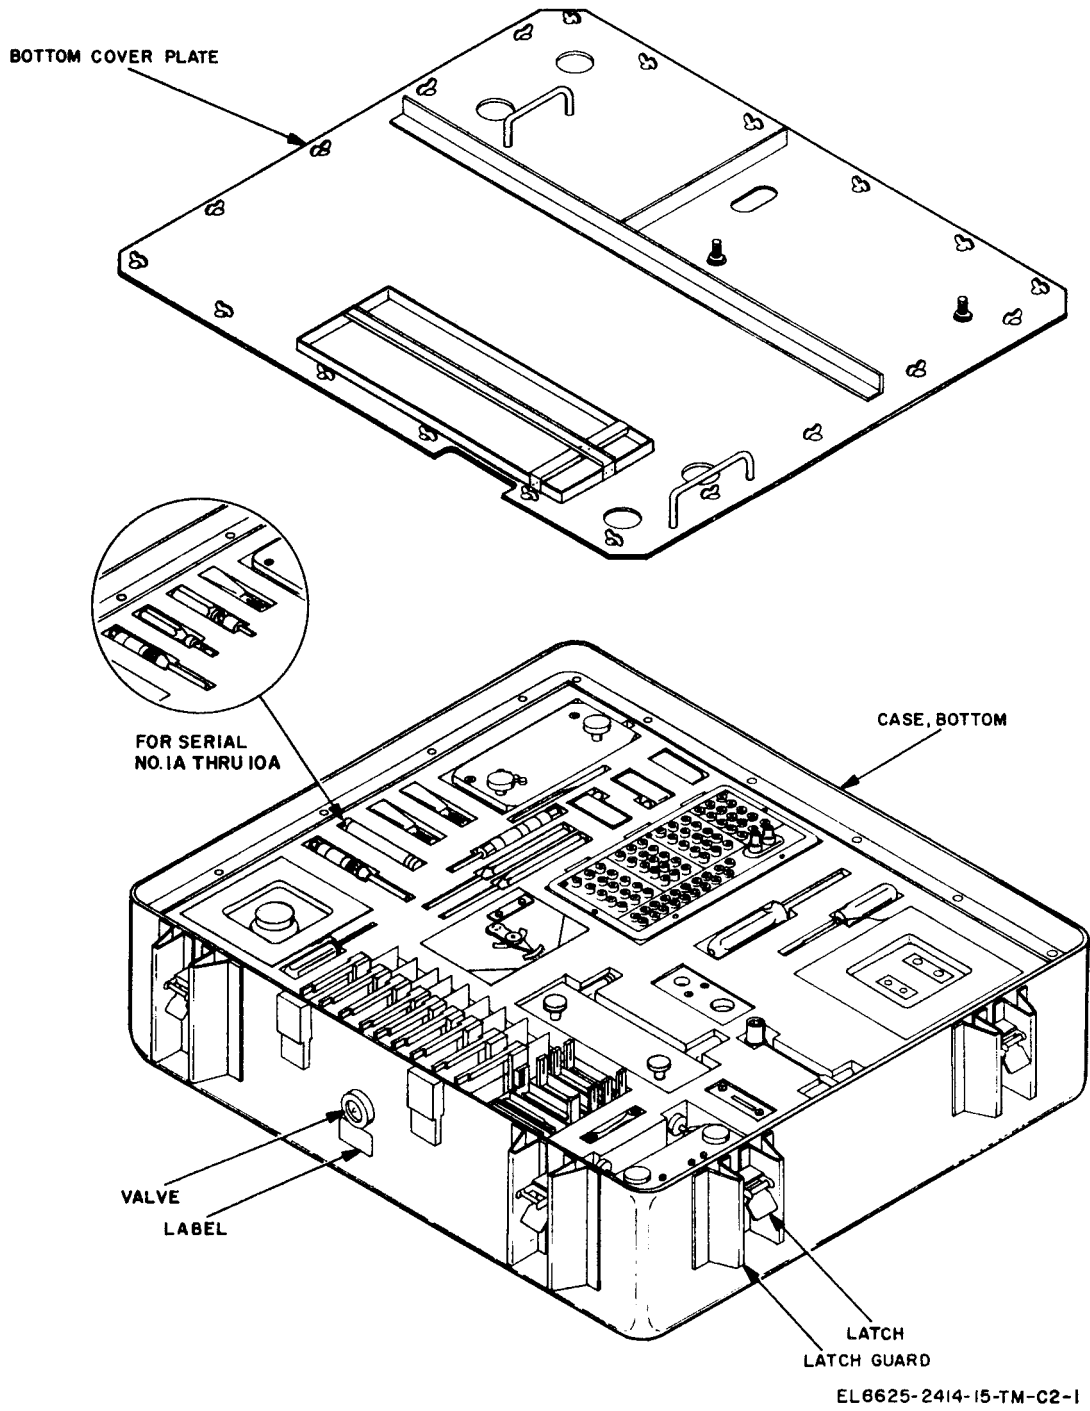

Figure 1-1. Test Facilities Kit MK-1191/AR, bottom.
*a.* This manual describes Test Facilities Kit MK-1191/AR (fig. 1-1, 1-2) and provides instructions for installation, operation and maintenance. Included are instructions for use under usual conditions, cleaning and inspection of the equipment, and replacement of parts available to the operator and organizational repairmen.
- (1) Appendix A, References.
- (2) Appendix B, Basic issue items list.
- (3) Appendix C, Maintenance allocation chart.